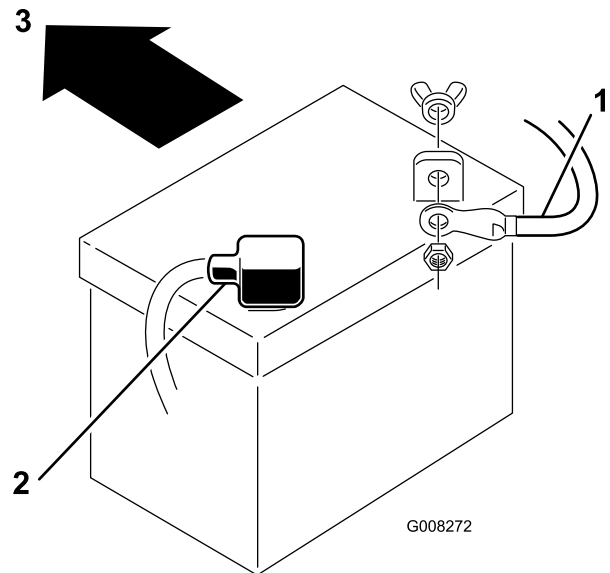

Figure 34
7. Disconnect the negative (black) ground cable from the battery post (Figure 34).
9. Disconnect the positive (red) cable from the battery post (Figure 34).
1. Place the battery into the chassis with the battery posts toward the rear of the machine (Figure 34).
3. Using the bolt and wing nut, connect the positive (red) cable to the positive (+) battery post (Figure 34). Slide the rubber cover over the battery post.
(Figure 34). Slide the rubber cover over the battery post.